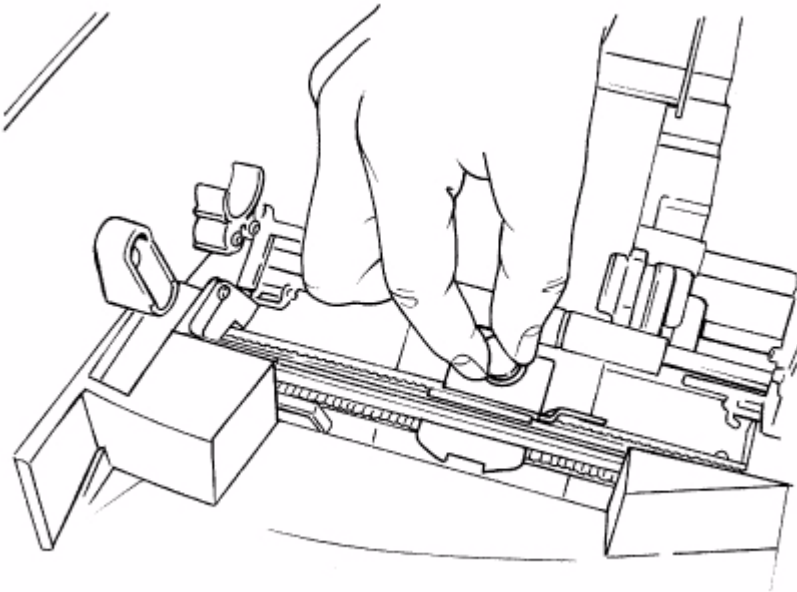

Figure B-1. Removing the stylus holder.
- Step 3:** To disengage the stylus holder, turn it counterclockwise to unscrew it, as shown in Figure B-1.